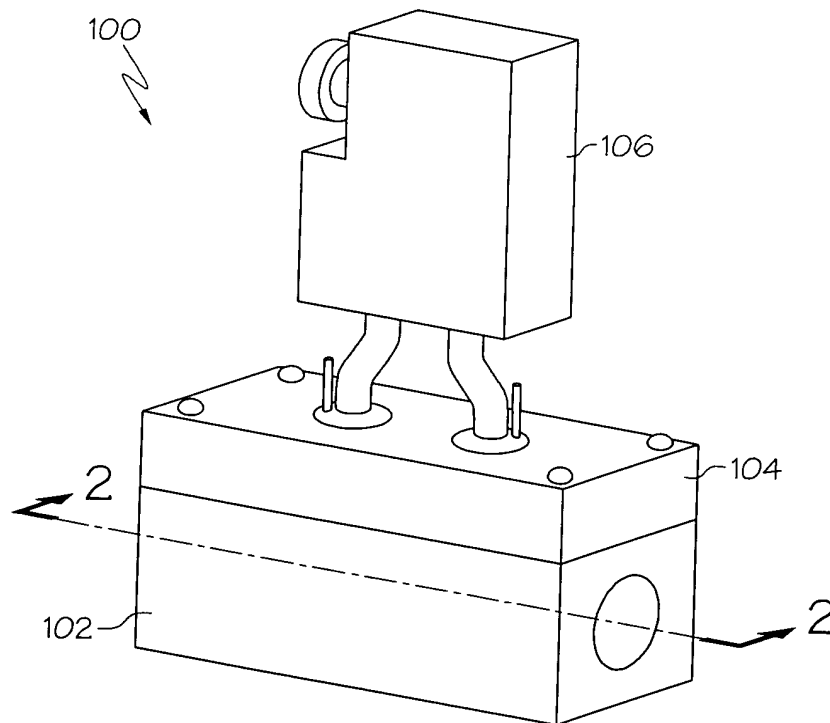
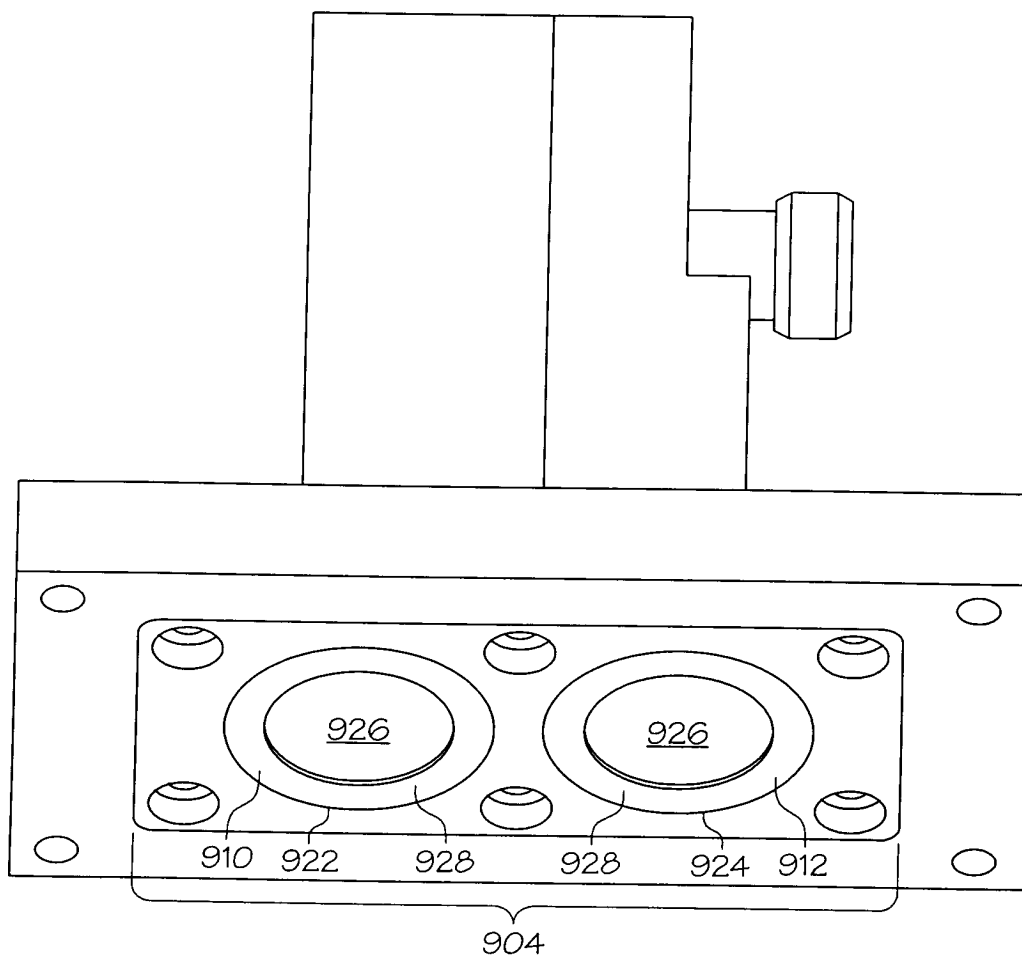

FIG. 1
FIG. 10
Enclosed please find and enter nine (9) sheets of formal drawings including FIG. 1 through FIG. 10, for the above-identified application.